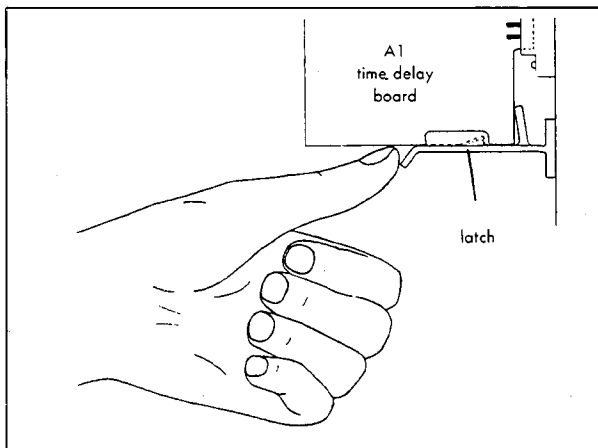

Figure 12. Time delay board latch
4. Remove Time Delay Board "A1" from its socket (release clips, grasp board by edges and gently rock it loose as shown in Figure 12).